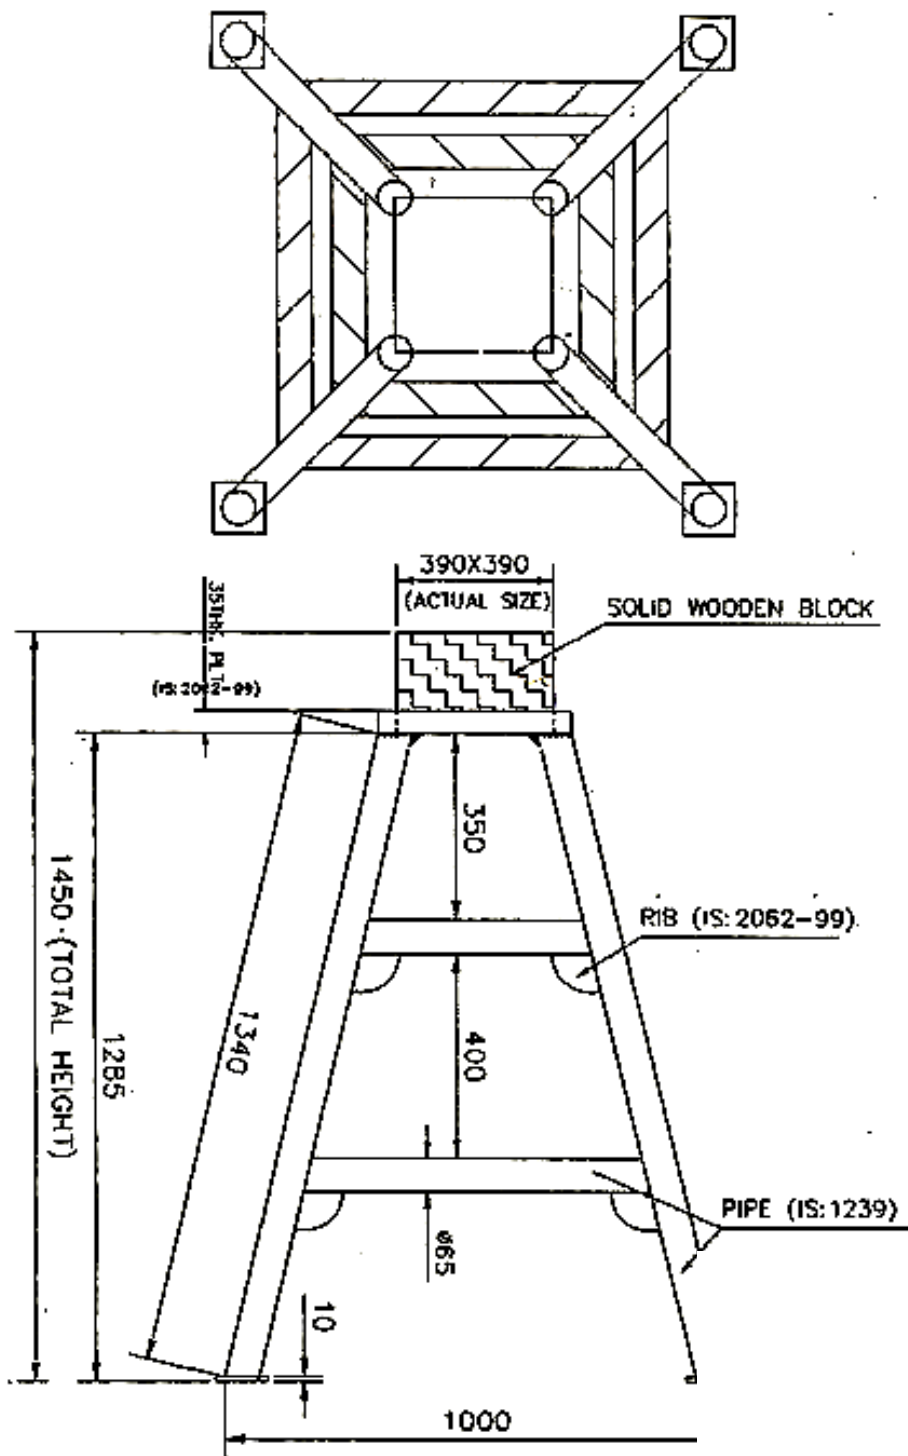

Figure: 2.4 Trestle for LHB Coach
- e) After the coach body is lifted, it should be kept on trestles. The steel trestles of the design shown in Figure 2.4 would prove useful for this purpose. Lines should be protected by scotch blocks with locking arrangement and key should be kept with Engineer till the time maintenance work is carried out.